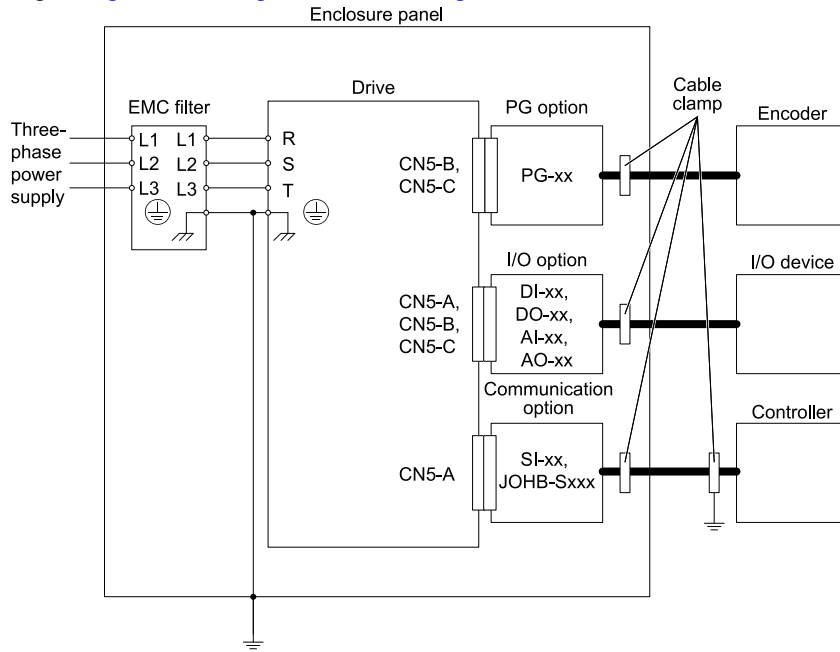
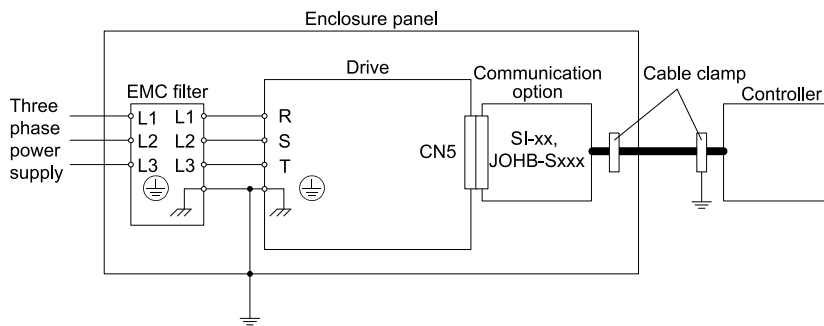
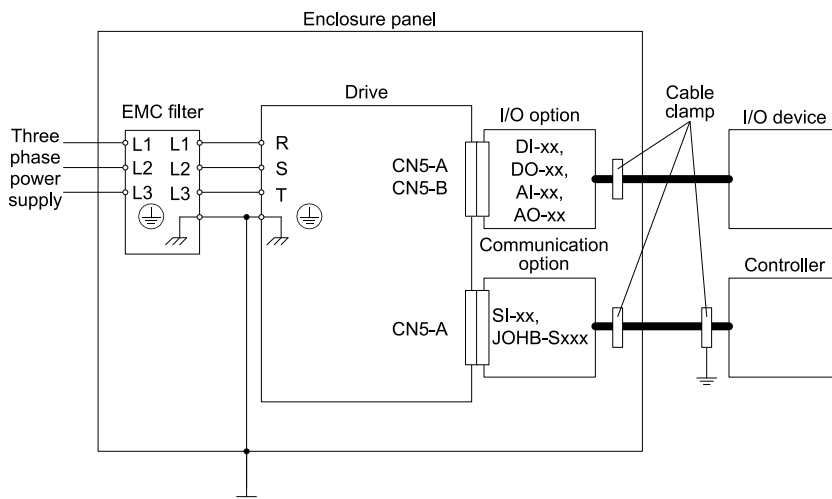

Figure 18.2 Option Installation for CE Compliance: 1000-Series, GA700, GA800, CR700, CH700
Figure 18.3 Option Installation for CE Compliance: GA500, HV600
Figure 18.4 Option Installation for CE Compliance: FP605
2. Keep wiring as short as possible and ground the largest possible surface area of the shield to the metal panel according to Figure 18.2, Figure 18.3, and Figure 18.4.